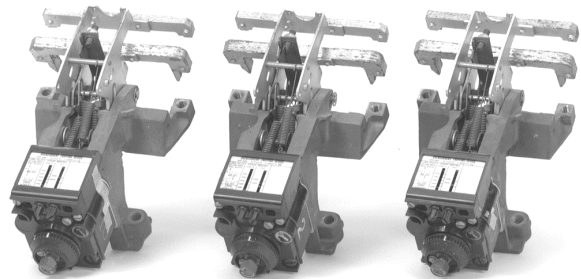

Figure 2. Electromechanical trip devices removed from the breaker.
2. Remove and discard the three electromechanical trip devices, shown in Figure 2.